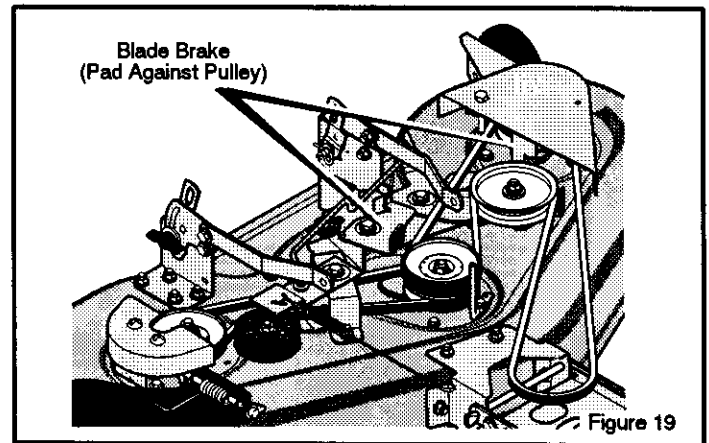

Figure 19
8. Move the **blade rotation control** to the **DISENGAGE** position. Stop the engine. Disconnect the wire from the spark plug. Check the operation of the **blade brake**. Rotate the pulleys with your hand. Make sure the **brake pads** are pressed tightly against the pulleys (Figure 19).